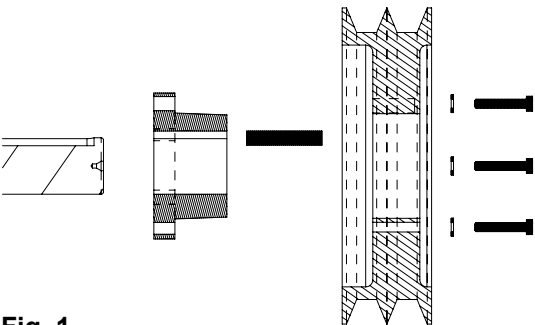

Fig. 1
- 2. See **Standard** mounting assembly - Figure 1